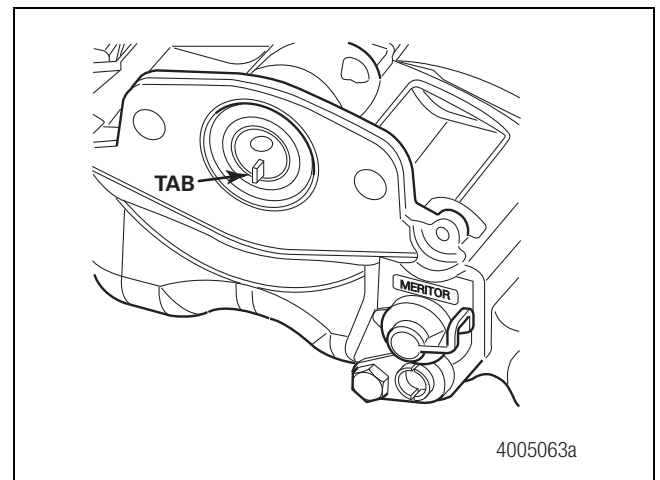
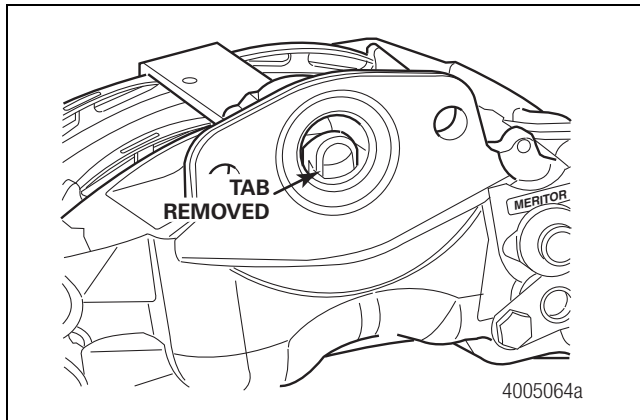

Figure 8.5
Figure 8.6
4. Before you install the air chamber onto the caliper assembly, ensure the perforated transit plug is removed from the caliper chamber seal by pulling the tab. Figure 8.5 and Figure 8.6.